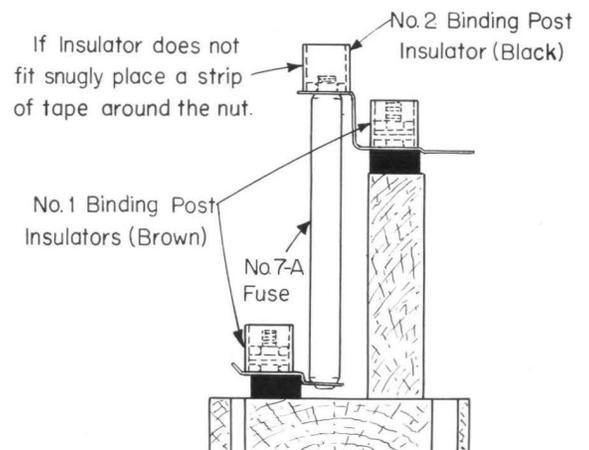

Fig. 34 – No. 1 and No. 2 Insulators on 7-type Fuse Protector
15.10 On main distributing frames equipped with the 7-type fuse protector, the special circuits may be identified at the fuse by the No. 1, No. 2, and No. 3 binding post insulators. The No. 1 insulator is used over the binding posts equipped with hexagonal nuts measuring 3/8 inch across the flats and also the 7T fuse. The No. 2 insulator is used over binding posts having nuts measuring 7/16 inch across the flats and also the 7A fuse. The No. 3 insulator is used over the screw-type binding posts of the BD-type cable terminals. (See Fig. 34.)